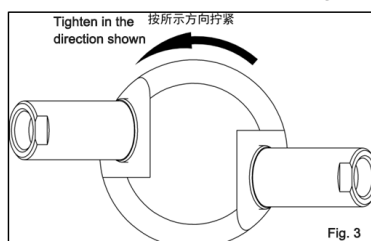

Fig. 3
- 3) Install the rotating head on the driven shaft (see Fig. 3)